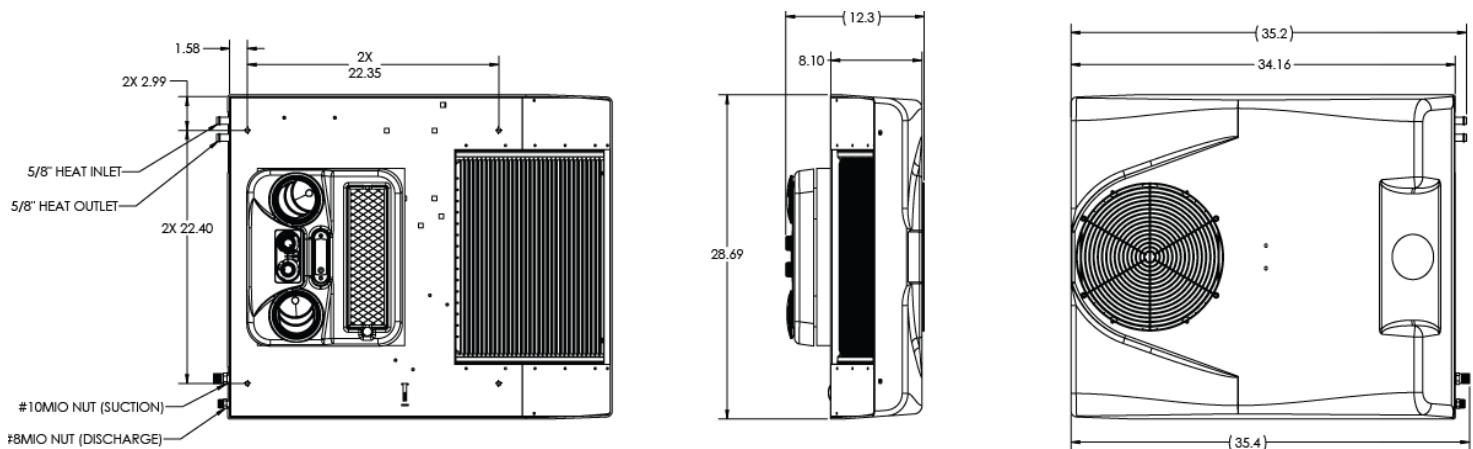

FIGURE 1
2. Check that all items listed on the 34-7055-001 installation kit have been included. (Figure 1)
- Install heating hoses to unit using connections on unit. See Figure 1.